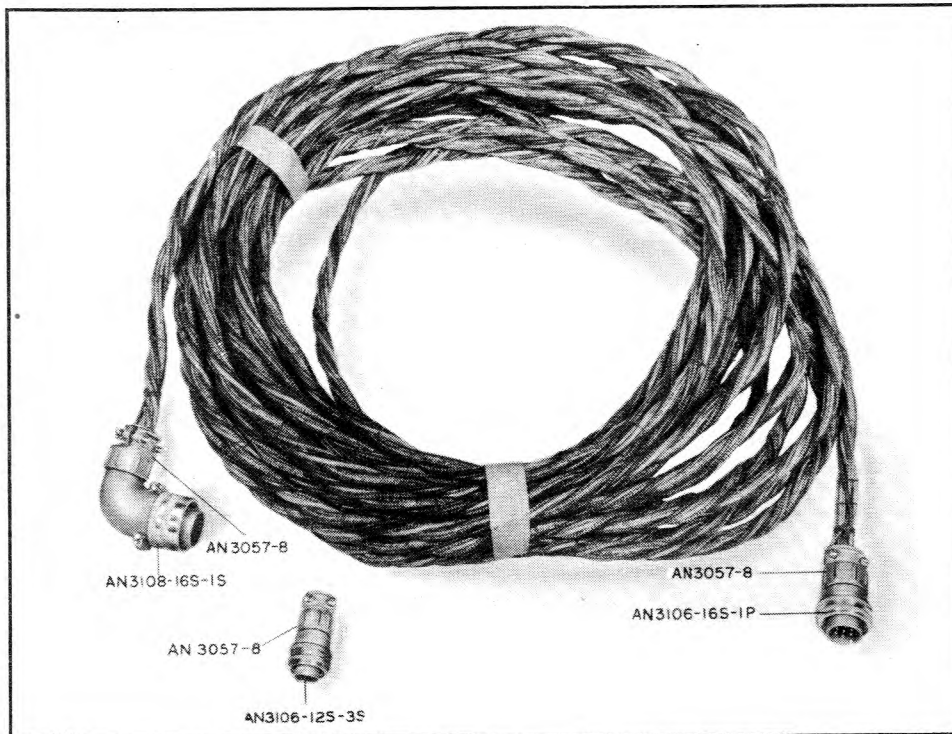

Figure 1-7. Interconnecting Cords and Plug
d. INTERCONNECTING AND POWER CORDS.—An interconnecting cord comprising six conductors with an AN3106-16S-1P plug and AN 3057-8 cable clamp at one end and with an AN3108-16S-1S plug and AN3057-8 cable clamp at the other end is used between Indicator I-152-(*) and Radio Receiver and Transmitter BC-788-(*). Five of the conductors, four unshielded and one shielded, are not furnished with Radio Set SCR-718-(*). The sixth conductor, cable MI-20, is furnished with the radio set, but is supplied in bulk and must be cut to length. Plug PL-175 and Cable Clamp AN3057-4 are used at the "POWER INPUT" socket on Radio Receiver and Transmitter BC-788-(*). No leads for connection to the power supply are furnished. (See fig. 1-7.)
(2) POWER CORD. — The cord from the radio receiver and transmitter to the primary power source is shown in figure 1-7. It comprises Plug PL-175 with Cable Adapter AN3057-4, and two conductors. Each conductor is unshielded Wire AN-20. Cut, assemble, and install the power cord according to the directions for the interconnecting cord in paragraph 2c (1) this section.